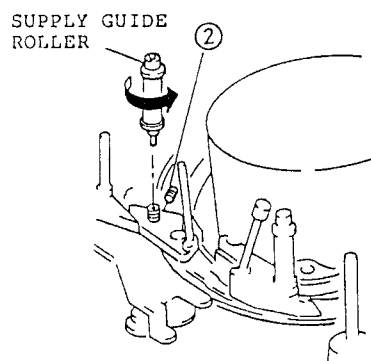

Fig. 2-69
2. Remove one (1) hexagonal screw (0.7 mm) holding the supply guide roller. (See Fig. 2-69)